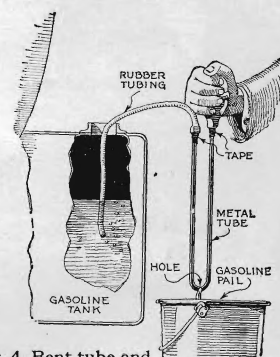

Fig. 4. Bent tube and bulb a handy siphon.
**I**NSTEAD of sucking rubber hose to start gasoline siphoning out of a tank, construct the neat siphon shown in Fig. 4. Bend a piece of brass or copper tubing into a U shape. To one end attach a rubber bulb like photographers use. To the other attach a piece of hose. Then drill a hole in the tube at the bend. Insert the rubber tube in the tank and squeeze the bulb. Press your finger tightly over the hole and release the bulb. Remove your finger and gasoline will flow from the hole in the pipe. The hole must be below the level of the gasoline in the tank.